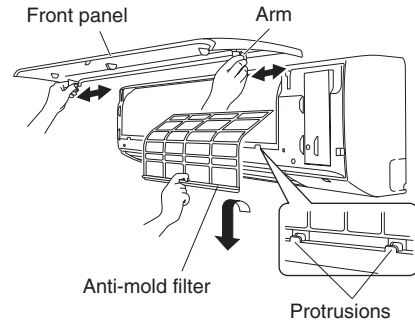

Fig. 3-12
If the front panel is difficult to remove, grasp both ends of it and lift it up slightly. Move it to the left and disengage the left arm, then move it to the right and disengage the right arm. (Fig. 3-12)
- (2) Lift the anti-mold filter up slightly to disengage it from the protrusions on the unit, and then pull downward to remove the filter from the unit. (Fig. 3-12)